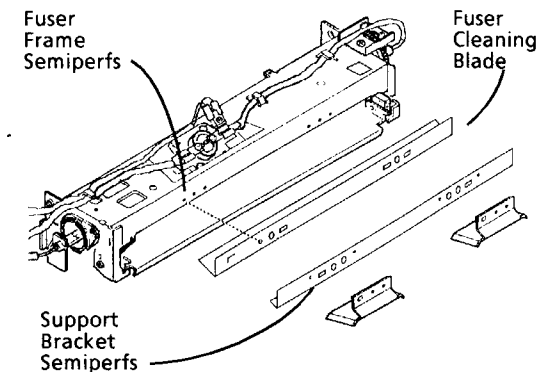

Figure 1. Installing the Fuser Cleaning Blade
1. Ensure that the semiperfs on the fuser frame engage the holes on the Fuser Cleaning Blade. Also ensure that the Upper Paper Guides are installed between the semiperfs on the support bracket, and that they are even with the top frame (Figure 1).